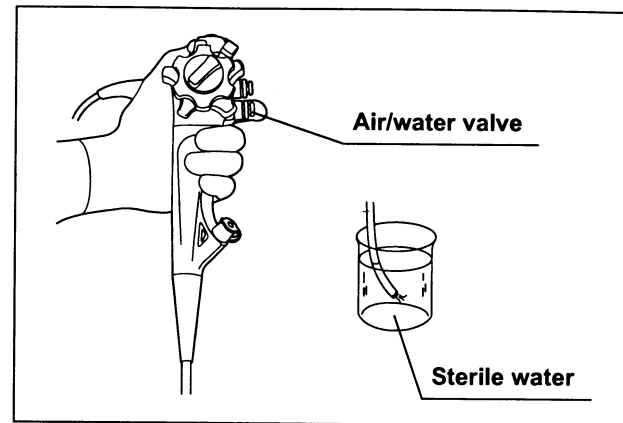

Figure 3.13
- Block the hole of the air/water valve so that air bubbles are emitted. Press the airflow button and confirm that the bubbles from the air/water nozzle stop (see Figure 3.13).
- Block the hole of the air/water valve so that air bubbles are emitted. Press the airflow regulator button and confirm that the lighting airflow regulator indicator changes to the indicator for the higher level (except that the "L" level indicator lights after the "H" level indicator), and that the amount of bubbles from the air/water nozzle vary corresponding to the airflow level setting (see Figure 3.13).
- Remove the distal end of the endoscope from the sterile water and operate the endoscope's water feeding function following the instructions given in the endoscope's instruction manual. Confirm that the amount of water emitted from the air/water nozzle varies corresponding to the airflow level setting (see Figure 3.13).